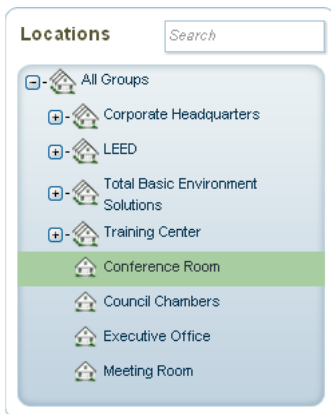

FIG. 259 Location selected in the Asset Management page (Locations window)
1. Select a Location in the *Locations* window of the Asset Management page (FIG. 259).